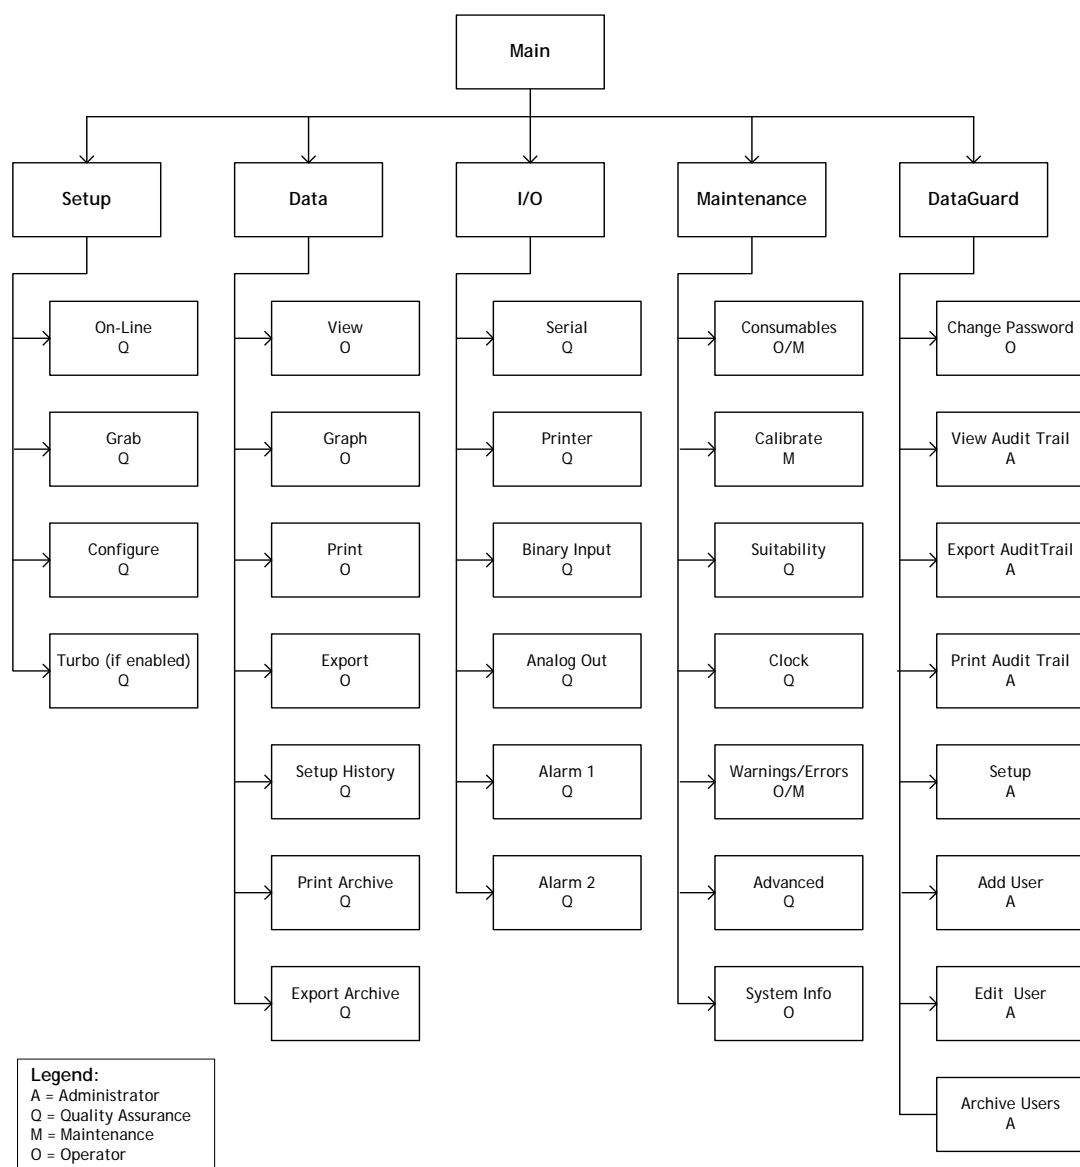

Figure 23: Menu Map with Minimum User Level
With DataGuard enabled, access is further restricted based on the User Levels assigned by the administrator. Figure 23: "Menu Map with Minimum User Level" on page 116 lists the minimum User Level required to access each of the Analyzer's menu screens.
- **User Level** — Indicates the level of access the user has to various Analyzer menus. The options in order of ascending access are **Operator** (default for all new User IDs), **Maintenance**, **Quality**, and **Administrator**. See Figure 23: “Menu Map with Minimum User Level” on page 116 for a menu map that indicates the minimum **User Level** required to access each menu.